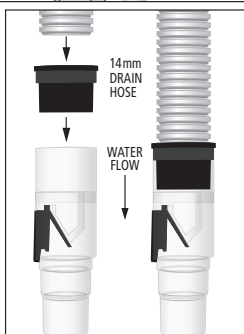

Figure 3
4. For 9/16" (14mm) drain hose, insert Rubber Adaptor into top of Trap and insert hose into Adaptor and seat firmly (**Figure 3**).